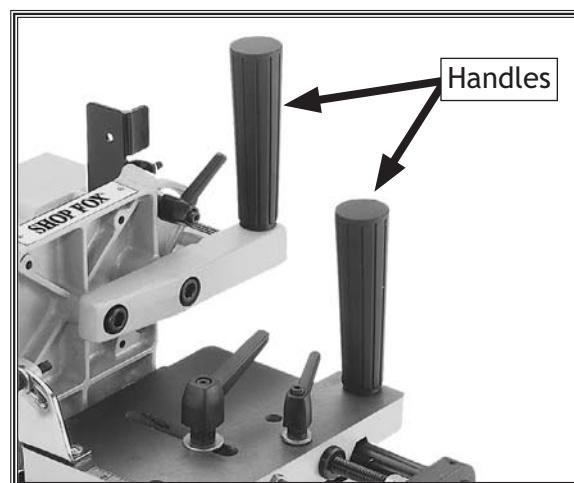

Figure 5. Handles installed.
2. Install the handles into the threaded holes on the clamp brace and slide plate, as shown in Figure 5.